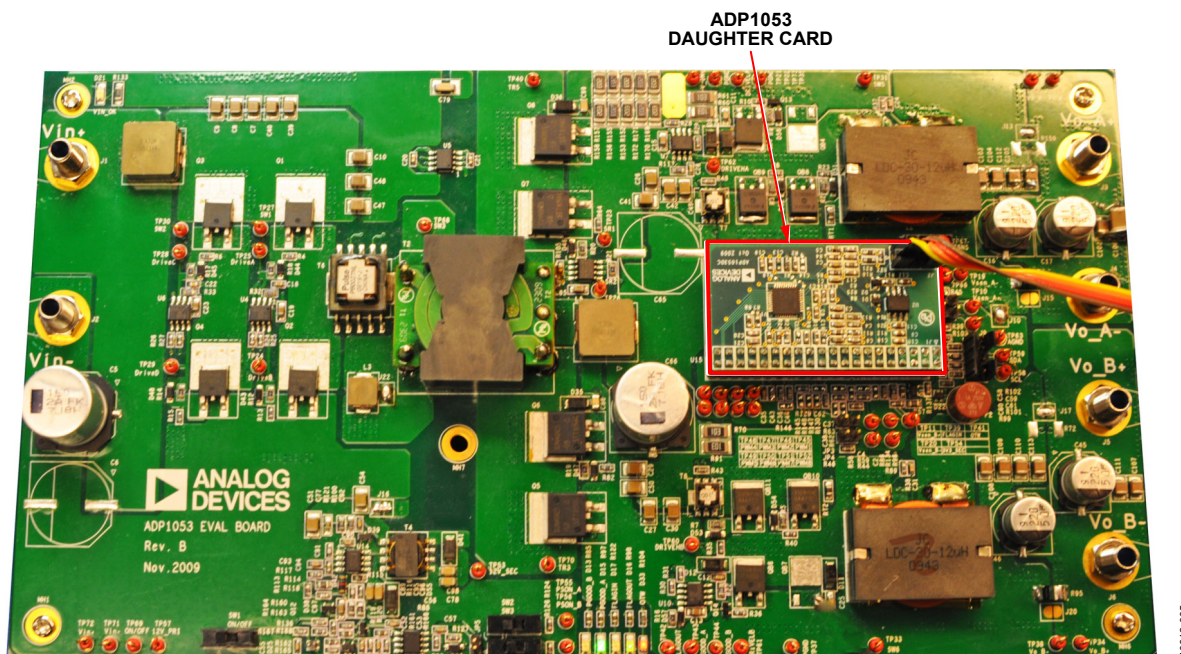

Figure 5. ADP1053 Evaluation Board with Daughter Card Plugged In
1. Insert the ADP1053DC-EVALZ daughter card into the ADP1053 evaluation motherboard (see Figure 5). Note that users must create a motherboard for the ADP1053 evaluation daughter card (the motherboard shown in Figure 5 is a prototype).